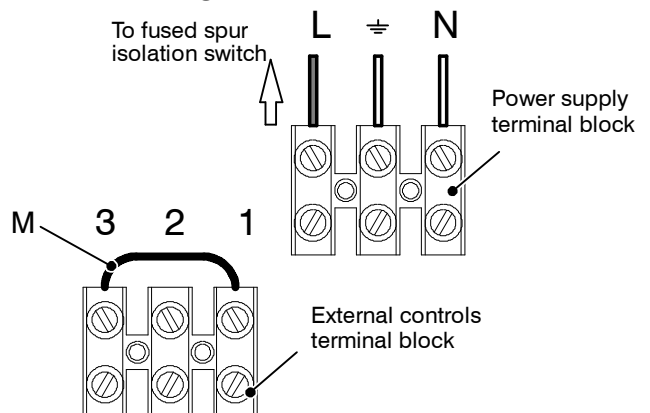

Fig. 6.12
- 6 Connect the electrical supply flexible cord coming from the fused spur isolation switch to the power supply terminal block of the boiler (Fig. 6.12) keeping the same connections for the live (brown wire) and the neutral (blue wire). External 3 A fuse or fused plug with same current rating is recommended. **Do not connect live wires to terminals to which the room thermostat must be connected.**
**When connecting any type of external control, the link M in Fig. 6.12 must be removed.**